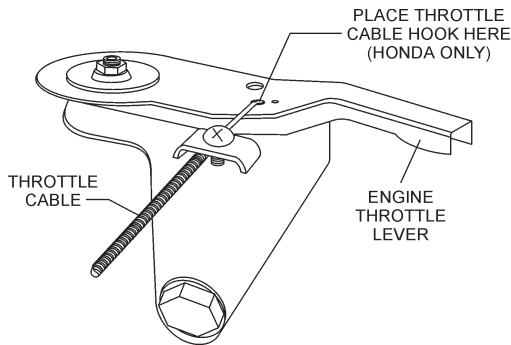

Figure 12. Throttle Cable Connection (HONDA)
- Connect the throttle cable **hook-on** wire to the **HONDA** engine throttle lever as shown in Figure 12.